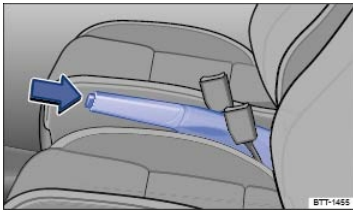

Fig. 140 Between the front seats: Parking brake.
- Pull the lever up slightly and press the release button ⇒ Fig. 140 (arrow).